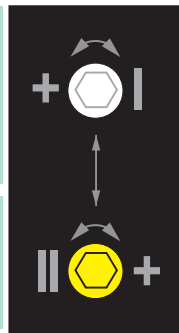

Figure 9
Please Note: If Access screen is "Right Hand Motor" or "Waterfall," the WHITE/DOWN (I) and YELLOW/UP (II) limit screws are reversed (Fig. 9).
Section 9.1 - Standard Motors Limit Adjustments (Fig. 9)